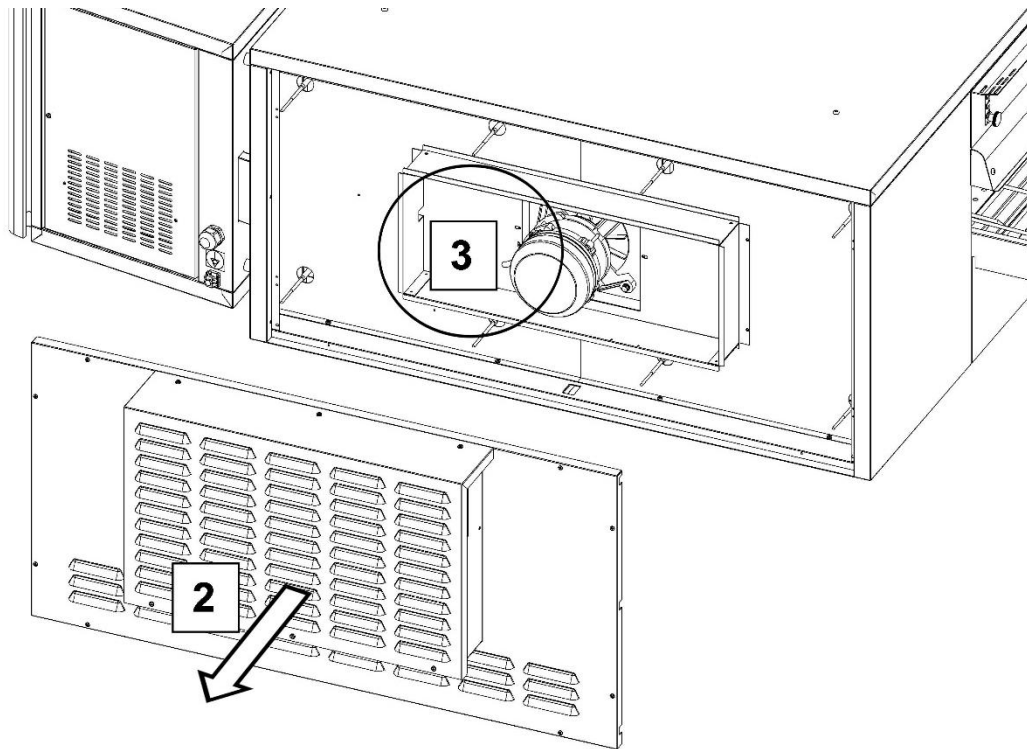

Fig.5
- 2.Remove the back panel and disconnect the electrical connections of the cooling fans, placed in the upper part of the panel. (Fig.5).
- 3.Disconnect the electrical plug of the ventilation motor (Fig.5 area 3).
5. Remove the containment plates and the insulating material (Fig.5).
Tapping on the 'Engine' icon (Fig. 4) opens the menu for changing the engine type (1-2-3-4). Tap and scroll the dial clockwise or anticlockwise to change the setting (Fig. 5).